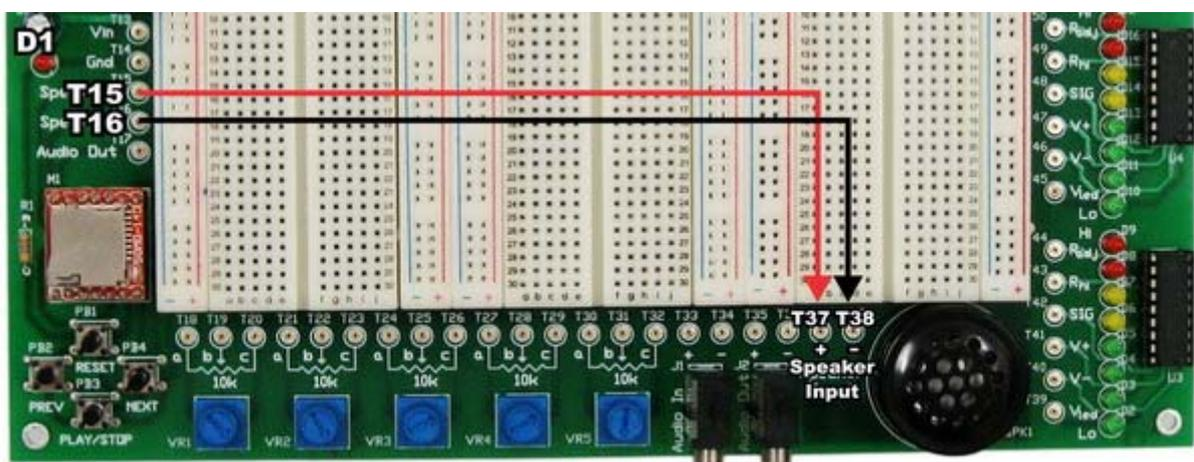

Figure 4 – Connections of T15 and T16 to the On-Board Speaker
- Next, connect **T15 (Speaker+)** and **T16 (Speaker-)** to **T37** and **T38** respectively, as shown in Figure 4.
- The red LED **D1**, as shown in Figure 4, will blink for a moment if +5 V is correctly supplied to the ME3100 Analog Circuit Design kit.